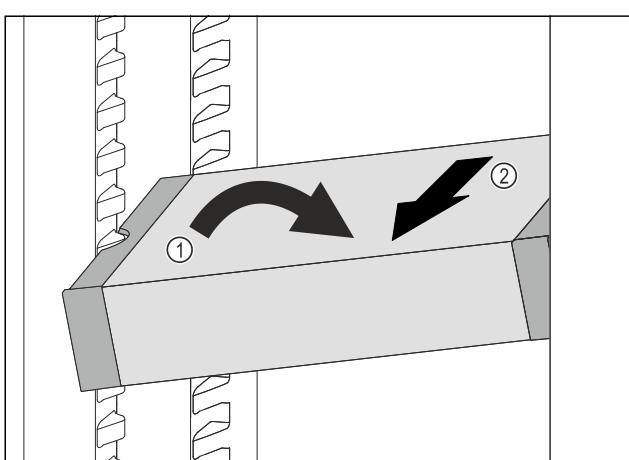

Fig. 145
► Set VarioSafe in refrigerator compartment at an angle. Fig. 145 (1)
► Take VarioSafe out to the front. Fig. 145 (2)